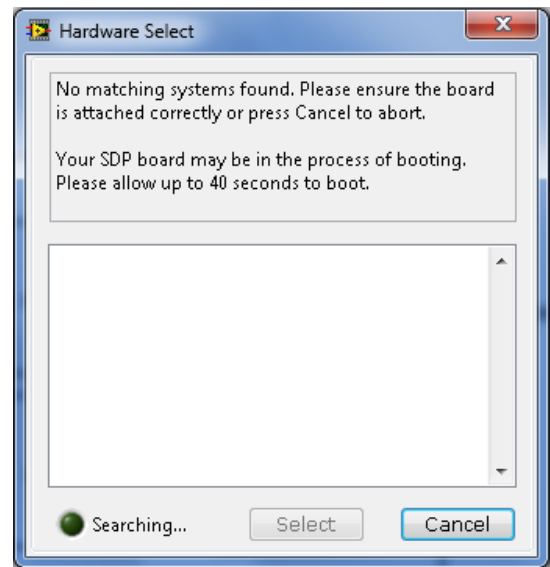

Figure 13. Connectivity Error Alert
2. If the EVAL-AD7402-8FMCZ evaluation board is not connected to the USB port via the EVAL-SDP-CH1Z when the software is launched, a connectivity error displays (see Figure 13). Connect the evaluation system to the USB port of the PC and wait a few seconds, and then click **Rescan** and follow the instructions.